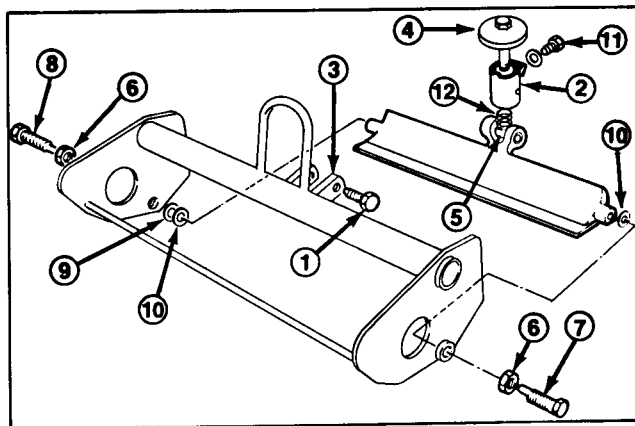

Figure 27
1. Loosen pivot screws securing bedknife pivot assembly to reel frame supports (Fig. 27).
2. Rotate adjustment knob and pivot assembly clockwise (left hand thread) until it is unthreaded from bedbar pivot (Fig. 27).
3. Loosen jam nuts retaining right and left bedbar pivot bolts. Remove pivot bolts (Fig. 27).